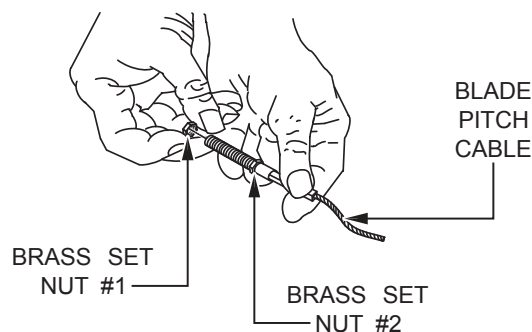

**Figure 12. Blade Pitch Cable Adjustment (Quick Pitch™ Handle)**
2. For trowels equipped with a **Quick Pitch™** handle (QXHC), squeeze the trigger lock and push the T-handle towards the engine to release tension on the blade pitch cable. See Figure 12.